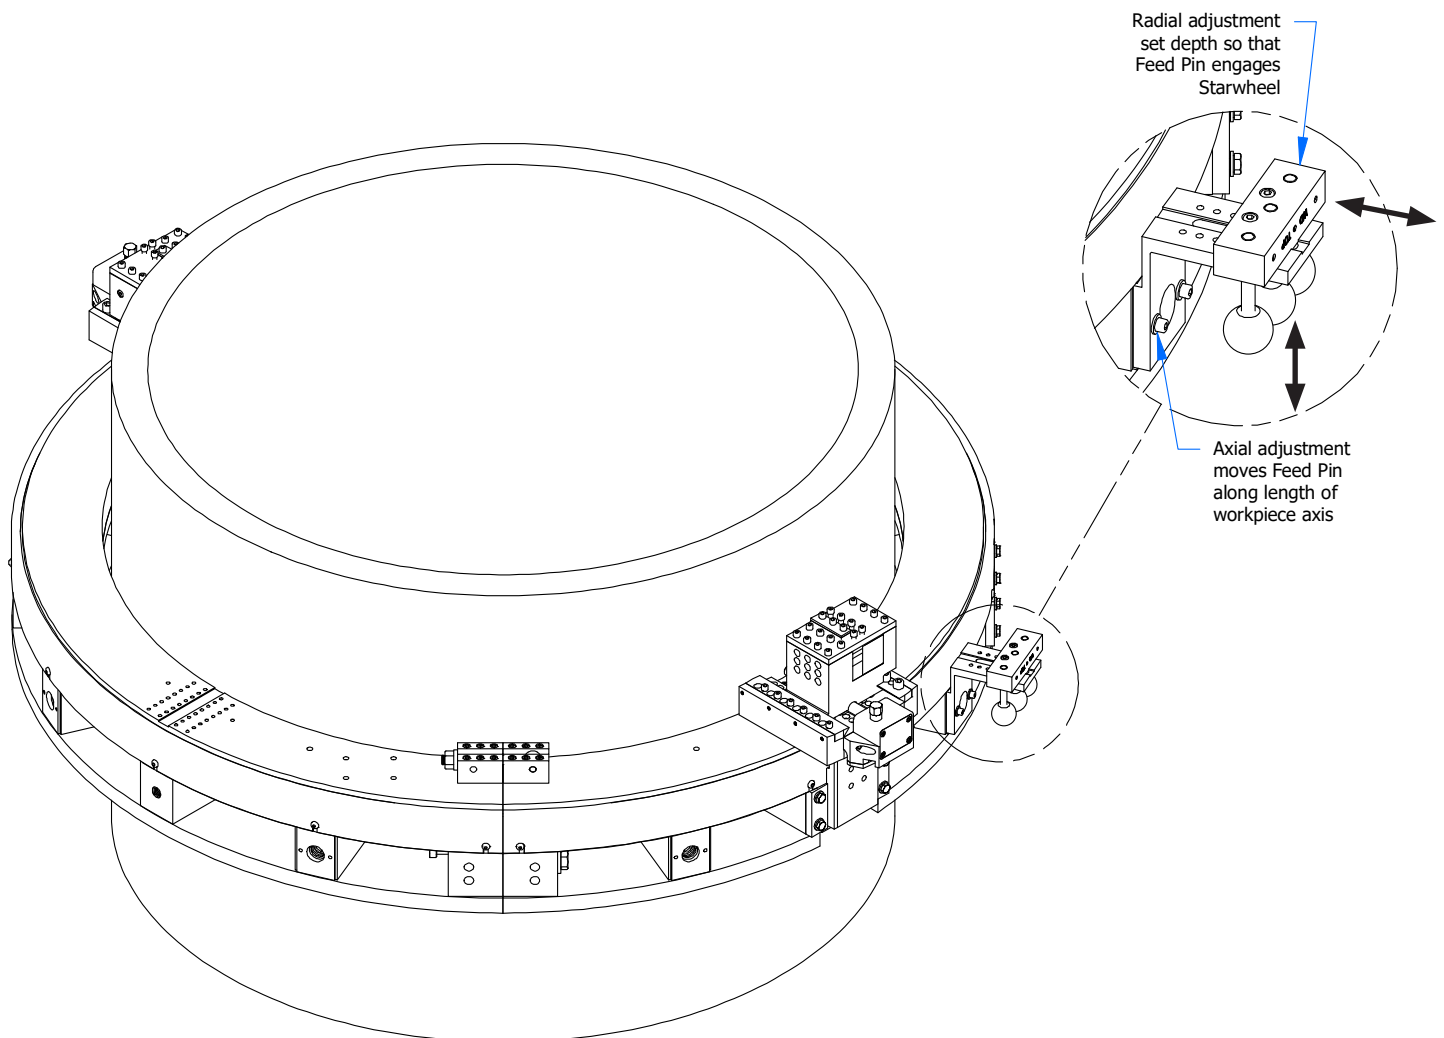

Figure 2-7 – Set Feed Pin Axial and Radial Positions
8. Remove two lock pins. Manually rotate the clamshell gear to check for smooth operation. Make sure the feed pin properly engages the starwheel on each of the two tool blocks. Adjust the feed tripper bracket axial and radial positions to engage the feed pin. See Figure 2-7.